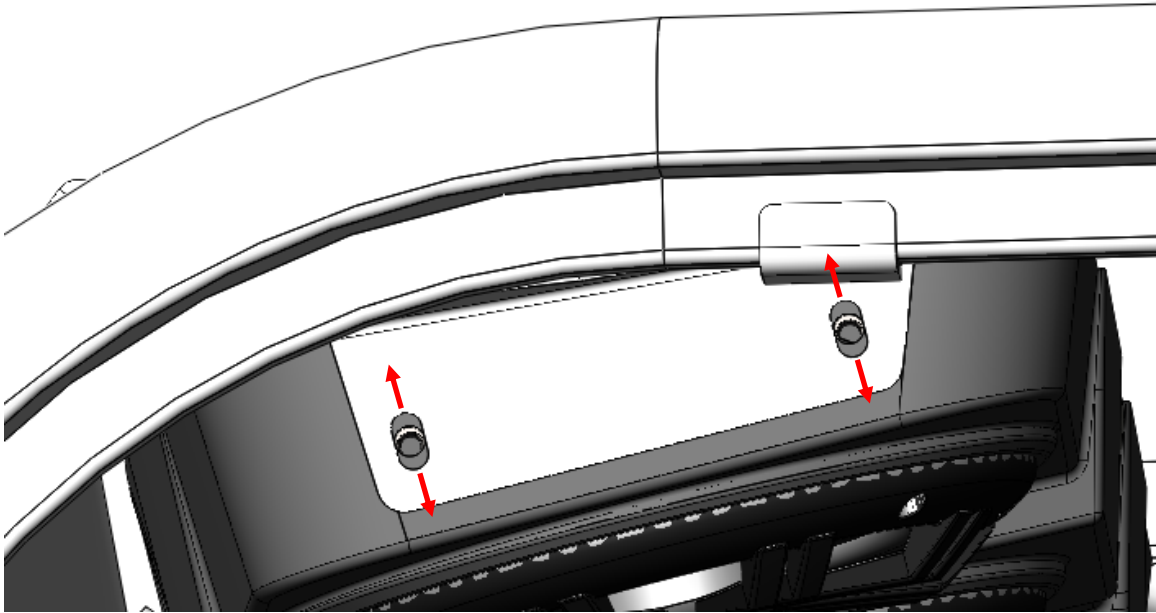

Figure 8: Up-down adjustability of the Audio Mini.
10. Reinstall the *Audio Mini* on the mounting brackets, and tighten the 4 mounting bracket bolts after achieving the desired viewing position relative to the visor. Slots in the brackets allow for adjustability to achieve your desired viewing position. See Figure 8. Torque the bolts to 10 ft.-lbs.